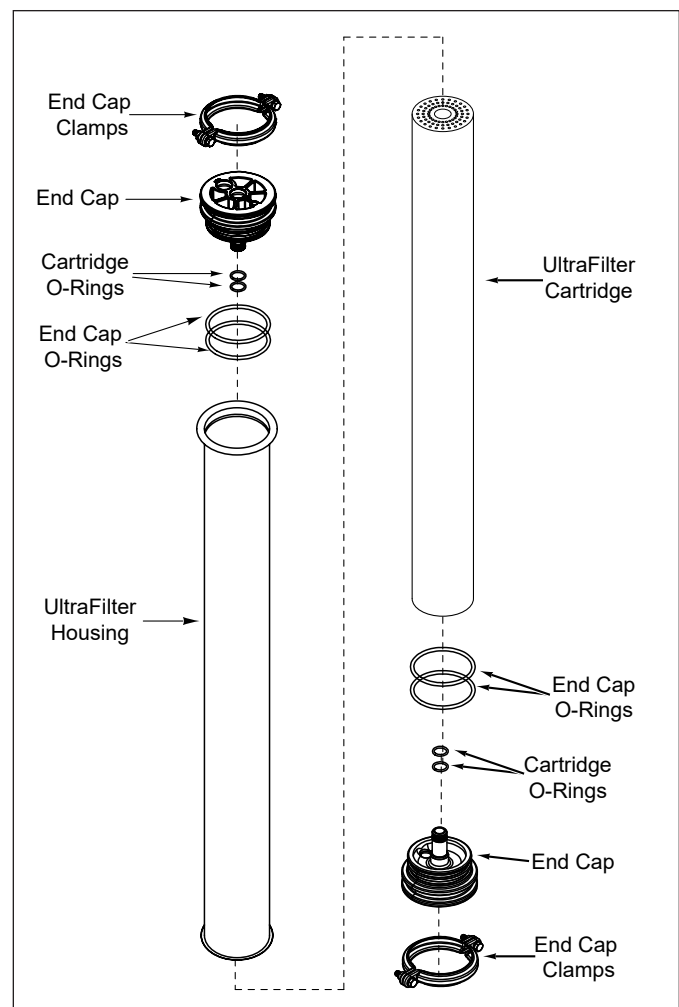

Figure 7. Replacing the UltraFilter Cartridge
3. Remove either End Cap clamp hardware from the UltraFilter Housing. (Figure 7)
6. Remove the End Cap (Figure 7) from the UltraFilter Housing.